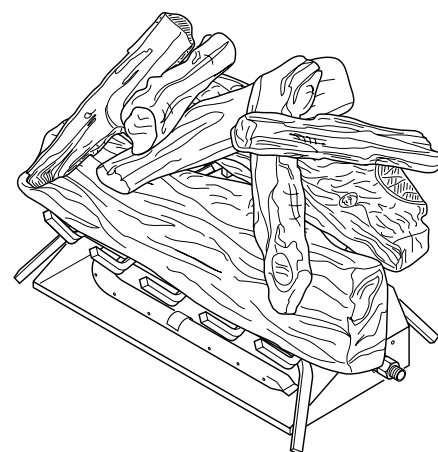

Figure 20 - Placement of Top Logs
5. Place the smaller top logs onto the bottom logs (see Figure 20). Leave as much open space between logs as possible to minimize flame impingement and sooting. **Note:** Logs may chip if they are handled roughly or if hit together while being placed.